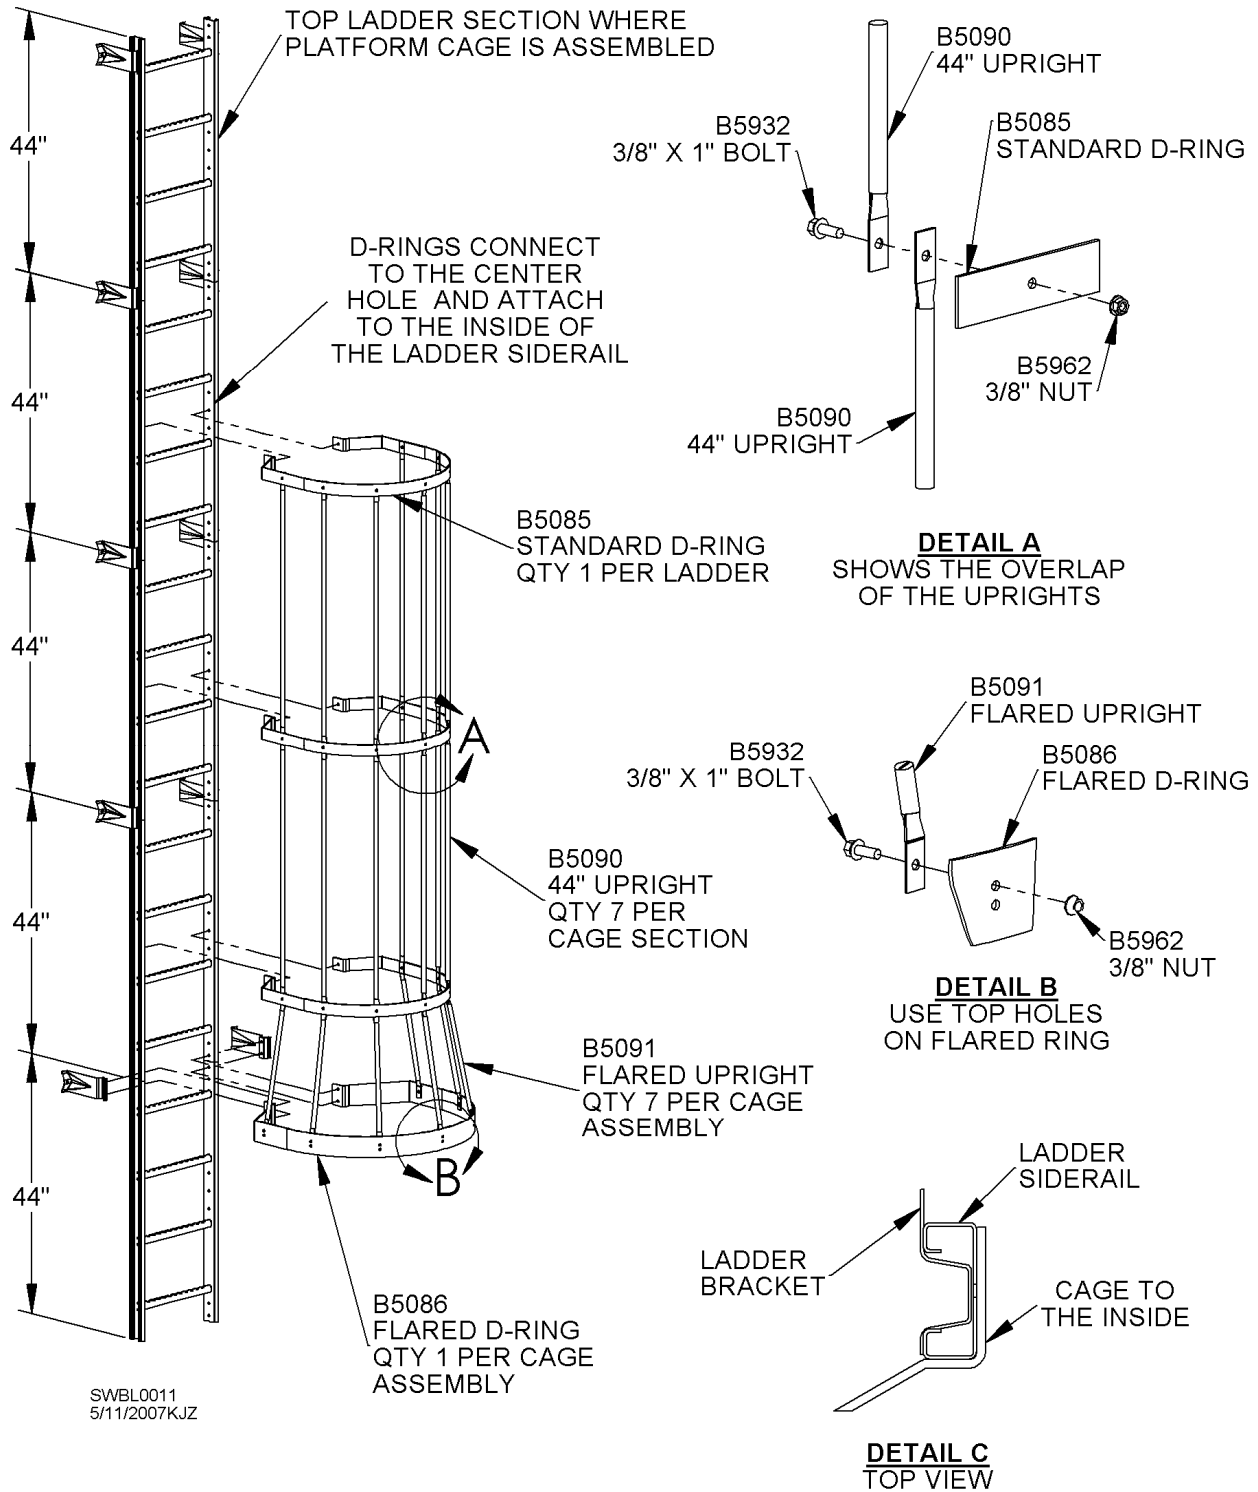

Fig. 10
As bin is built, continue to add appropriate ladder and cage sections. Refer to following pages for specific ladder and cage layouts. Cage sections consist of standard D-rings and seven (7) uprights. Standard D-rings attach to inside of ladder siderails. A flared D-ring is always used at bottom of each cage assembly. Top D-ring must be connected to center of top ladder. This allows bottom flared D-ring to be at proper height above the next surface (concrete or landing platform). Assemble standard D-rings and uprights to ladder sections with 3/8" hardware. See Fig. 10.